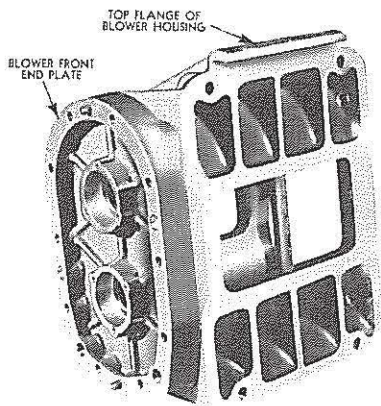

FIG. 10
- c. Slip pressure plate (E) over body and next to head of puller stud and turn puller stud (A) clockwise forcing oil seal into seat until pressure plate (E) sets tight against inner face of blower end plate. Remove tool and install remainder of seals in the same manner.
2. Install blower front end plate. The top of the blower may be identified by the flange which carries the entire length of the housing and provides a rest on top of the cylinder block. The end plate is semicircular at the top, as shown in Fig. 10 and is also marked "TOP" on
Fig. 10 and start end plate dowels into dowel holes in blower housing. Tap dowels lightly to fit end plate to housing.